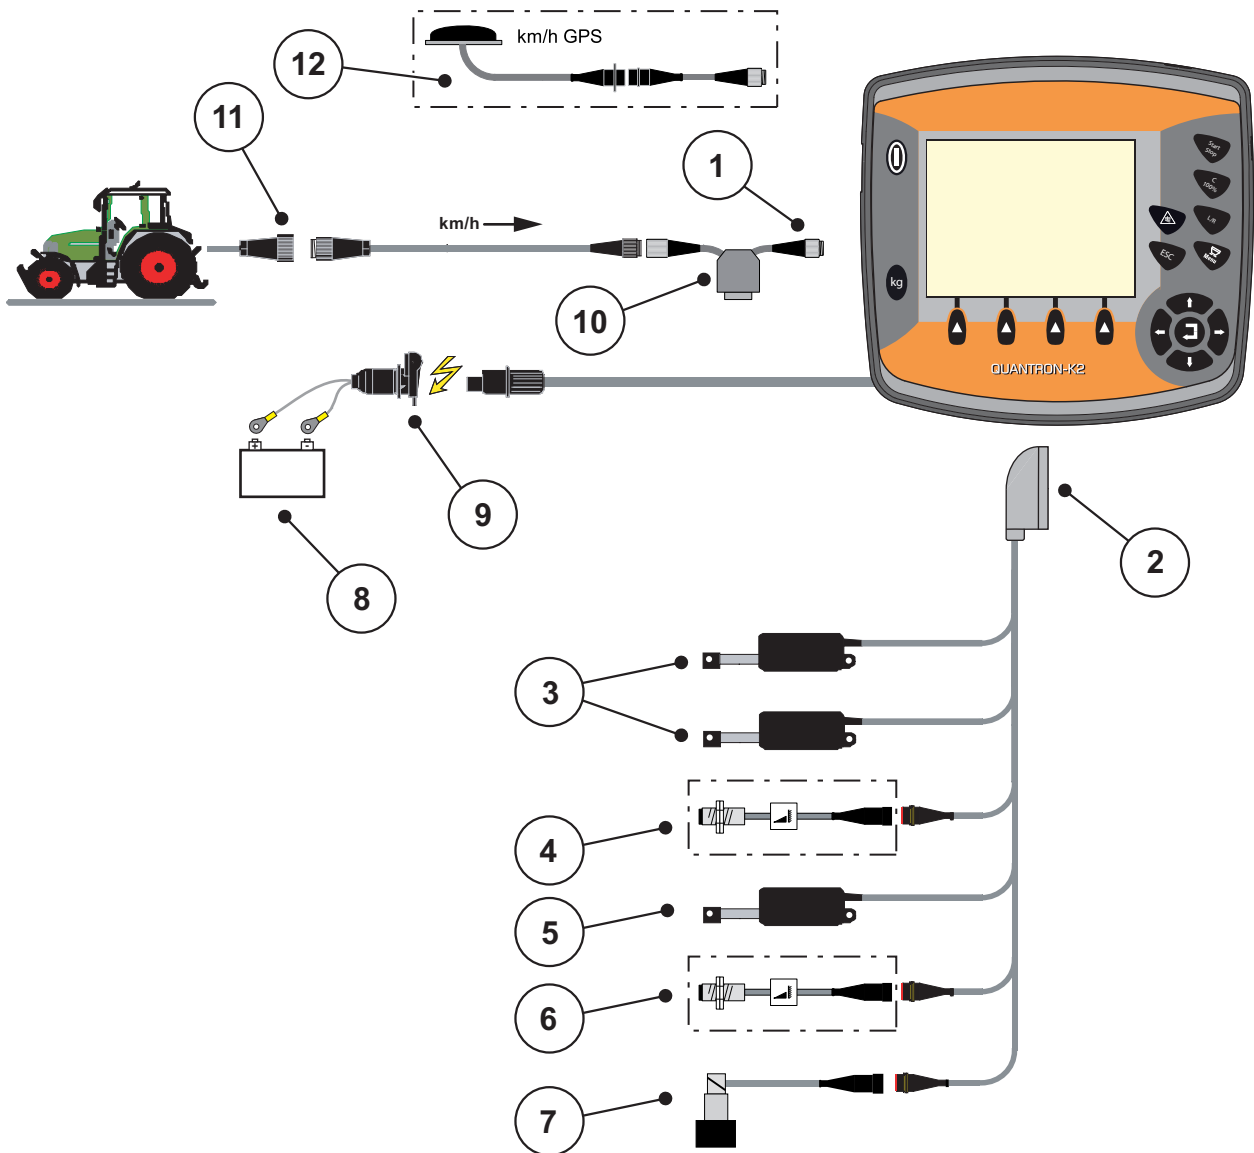
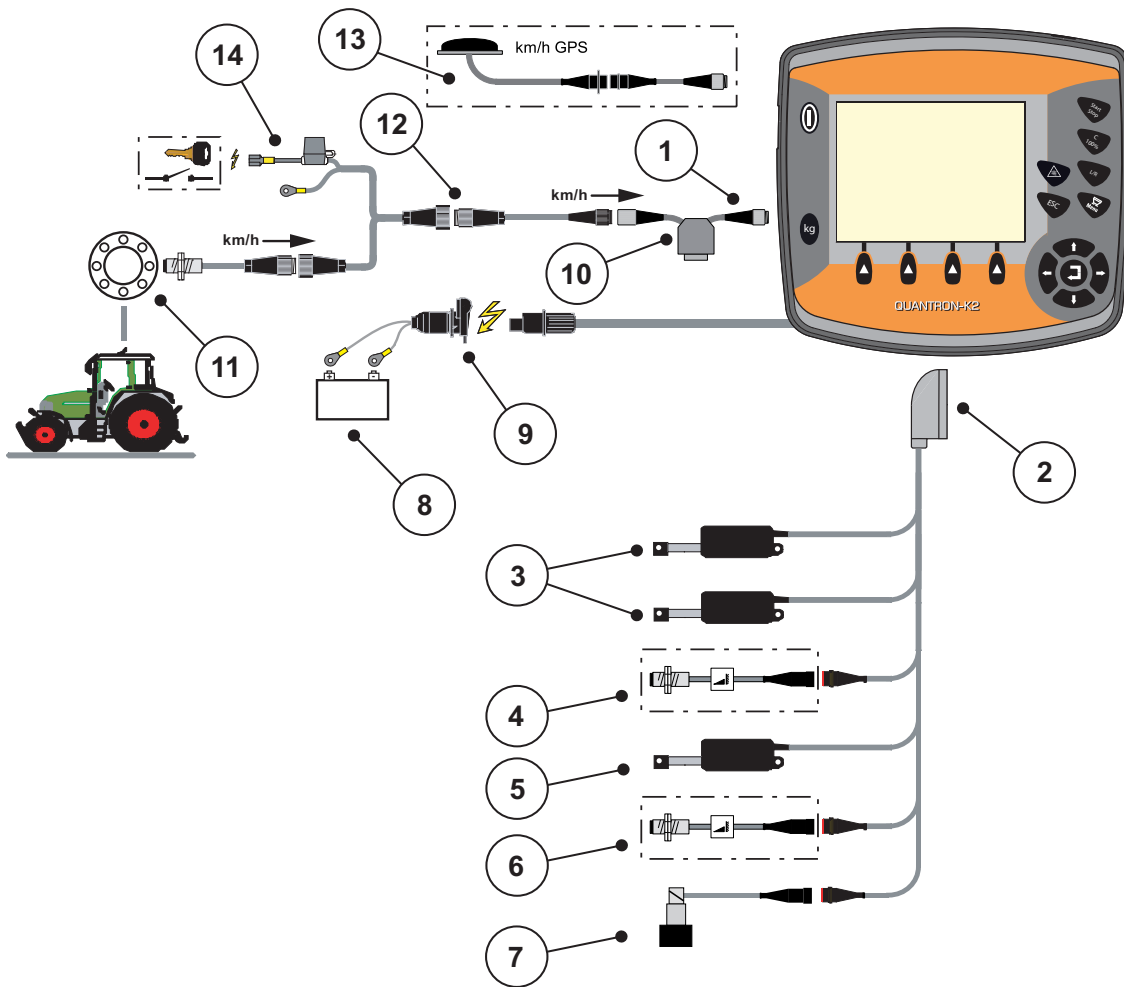

Figure 3.3: Standard schematic connection diagram QUANTRON-K2
Figure 3.5: Schematic connection diagram QUANTRON-K2 (power supply via ignition lock)
- Connect the control unit to the 7-pin socket or to the forward speed sensor (depending on the equipment, see figure 3.3 to figure 3.5).